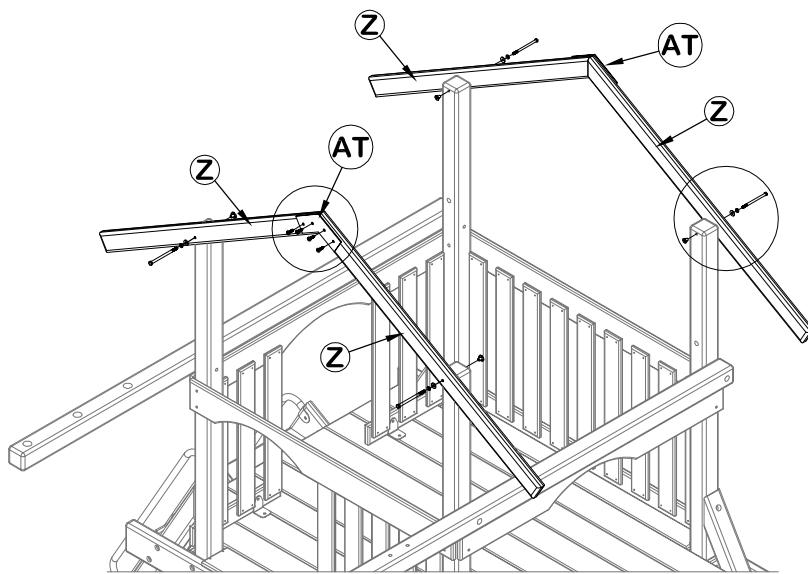

Fig. 16
- (2) 'AT' - Mending Plates
Step 1: Gather items Z(4), AA(6), AB(6), AT(2) and hardware bag.
Step 2: Attach roof trusses Z to uprights A and B using 4 1/2" hex bolts, 5/16" flat washers, 5/16" split washers, and 5/16" t-nuts (Fig. 16). Leave slightly loose so trusses can be rotated.